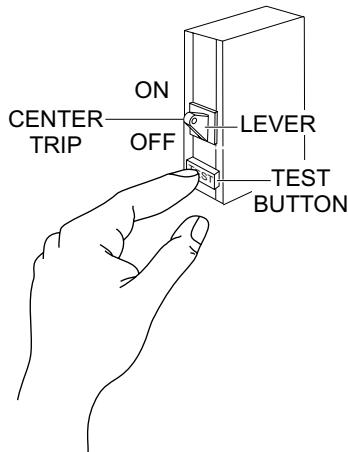

Figure 43. GFCI Breaker (Test)
4. Press the **test button** (Figure 43) on the AC circuit breaker and verify that the circuit breaker lever moves (**click**) from the **ON** position to the **center trip** position. This indicates that the GFCI breaker is working correctly and ground faults will be detected.